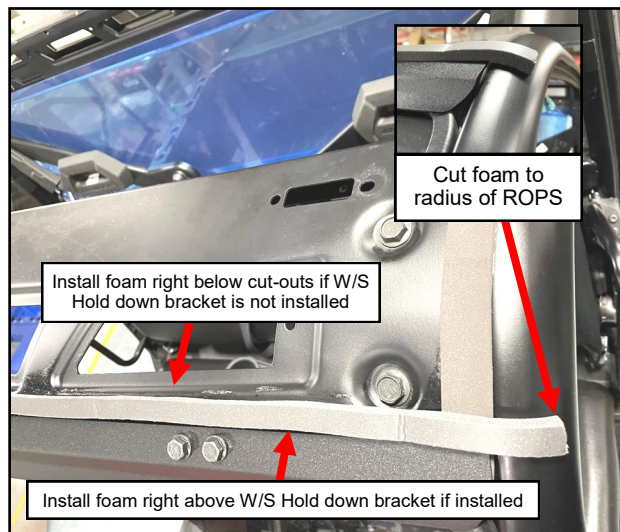

Fig. 1.1 (Apply foam rubber to windshield mount)
- 1.1 Per figure 1.1, apply 1/2" X 9/16" foam rubber weatherseal from the left ROPS across the windshield mount and to the right ROPS. Cutting the ends half way down the radius of the ROPS as shown. Keep extra foam rubber for next step.